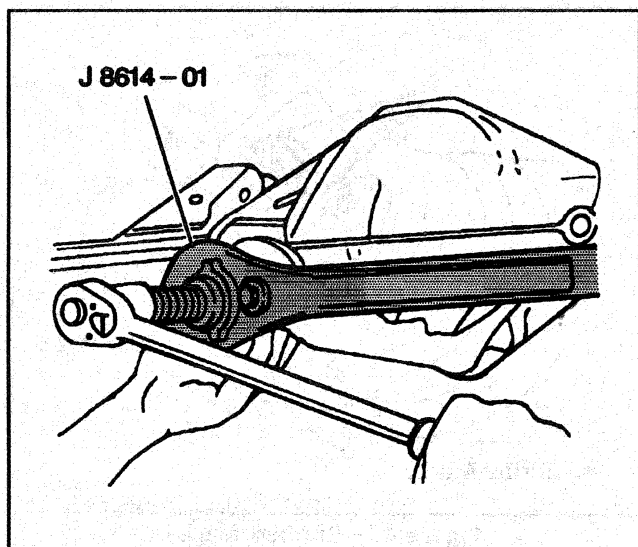

Figure 18—Removing the Drive Pinion Flange
4. Pinion flange using J 8614-01 (Figure 18).